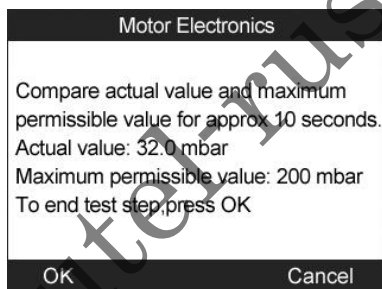

Figure 14.44
- e) Check the exhaust backpressure with engine running at cut-off speed. The tool will read off the actual backpressure value and compare with the upper limit. (Figure 14.44) Select **OK** to end the test or **Cancel** to return to previous menu.